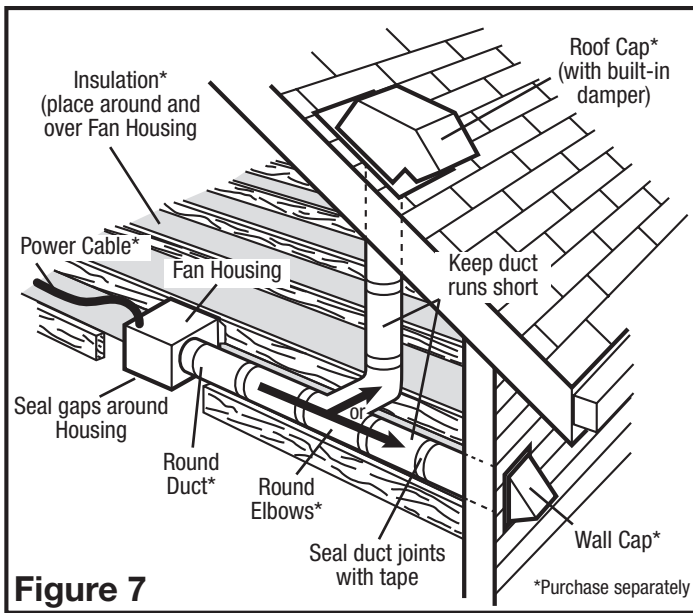

Figure 7
2. Ensure duct joints and exterior penetrations are sealed with caulk or other similar material to create an air-tight path to minimize building heat loss or gain and to reduce the potential for condensation. Place/wrap insulation around duct and/or fan in order to minimize possible condensation buildup within the duct, as well as building heat loss or gain (**Figure 7**).